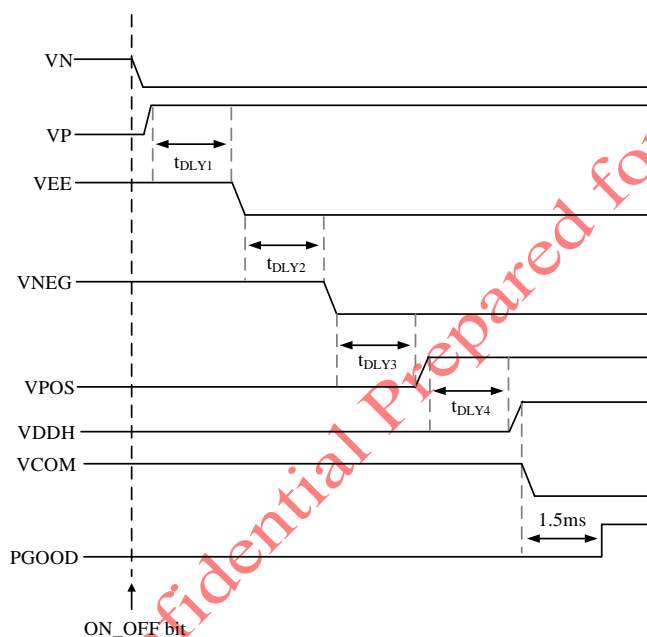

Figure 11. Power-on sequence Timing: VCOM set being auto mode.
To pull high EN pin and then set ON\_OFF bit[7] at 0x00h being 1 to enable all of power rails with specific power-up sequence, as shown in Figure 11. During power on period, negative buck-boost (VN) start-up at first, and then the positive boost (VP) ramps up as VN settling. After delay time  $t_{DLY1}$ , negative charge pump (VEE) is start-up. As VEE rail settling, negative LDO rail (VNEG) will ramp up after delay time  $t_{DLY2}$ . As VNEG rail settling, positive LDO rail (VPOS) will ramp up, after delay time  $t_{DLY3}$ . Finally, positive charge pump (VDDH) is power-up after delay time  $t_{DLY4}$ .
- Auto Mode: VCOM turn-on timing follows the default sequence, and it is independent with external VCOM\_EN pin, as shown in Figure 11.